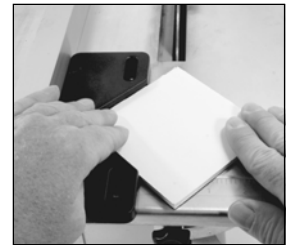

Figure 3
4. The Angle Guide is provided to make diagonal cuts. Place the Angle Guide against the Fence to create a guide for your tile. Place the tile inside the Angle Guide, and slowly feed the work piece into the revolving Blade. See Figure 3.